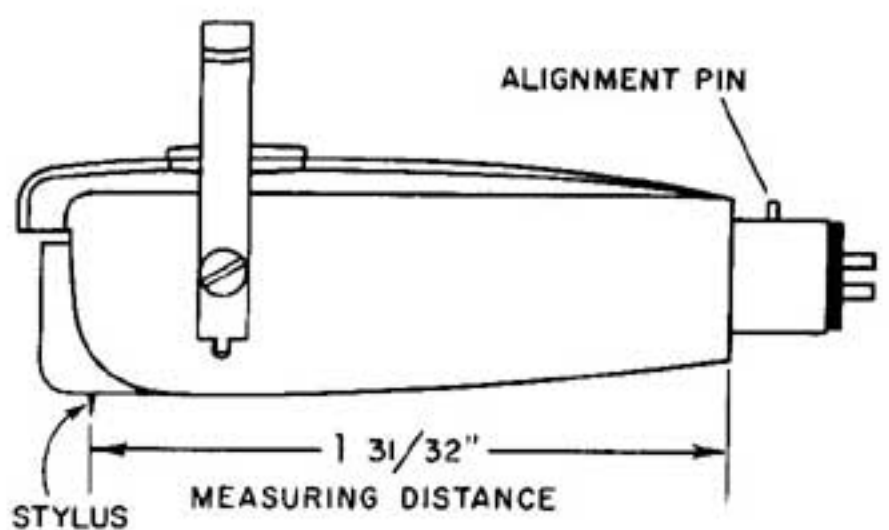

Fig. 4
- 2- The alignment pin located on the cartridge shell should slide into the slot provided for it on the tonearm tube (Fig. 4).
For proper tracking on REK-O-KUT turntables, the overhang of the cartridge must be a fixed distance. Fig. 4 indicates the proper measurements to allow for cartridge overhang. Most cartridges are constructed so the overhang distance is fixed by the cartridge mounting holes when installed in a REK-O-KUT tonearm. Some cartridge manufacturers, however, have not standardized on the overhang distance. In these cases, it is necessary to obtain cartridge mounting kit KT-126 from your REK-O-KUT dealer. This kit consists of a cartridge bracket with slotted holes which allows the cartridge to be moved forward or backward until proper overhang is accomplished.